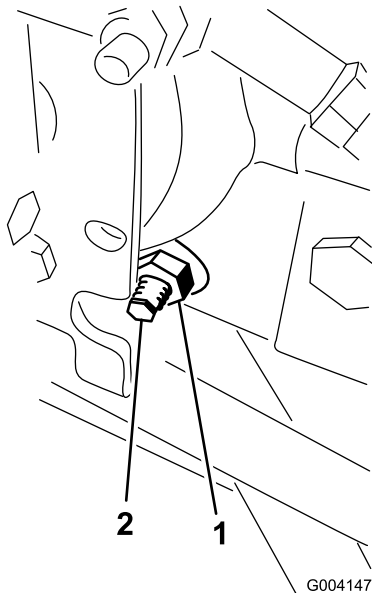

Figure 45
3. On the right side of the hydrostat, loosen the locknut on the traction adjustment cam (Figure 45).